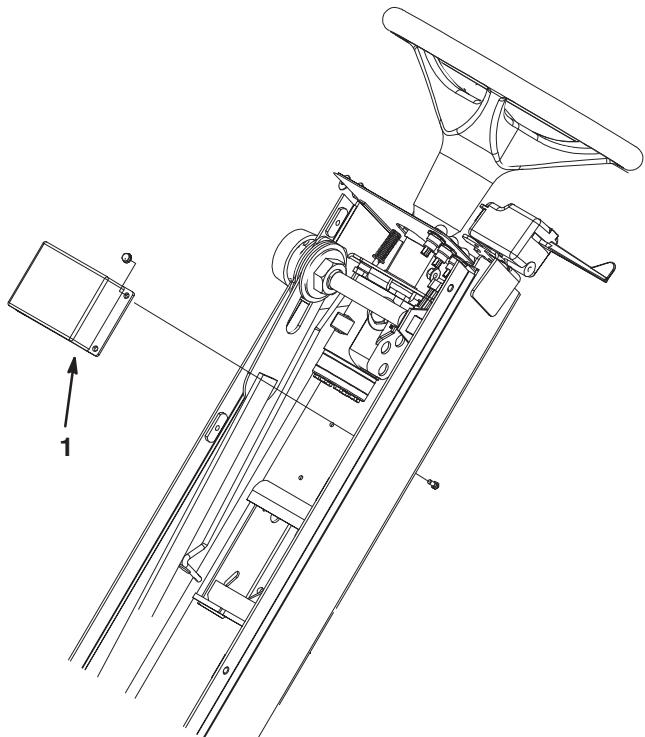

Figure 10
6. Mount the dual rate flasher to the steering tower with (4) #10 screws and nuts, positioning as shown in figure 10.